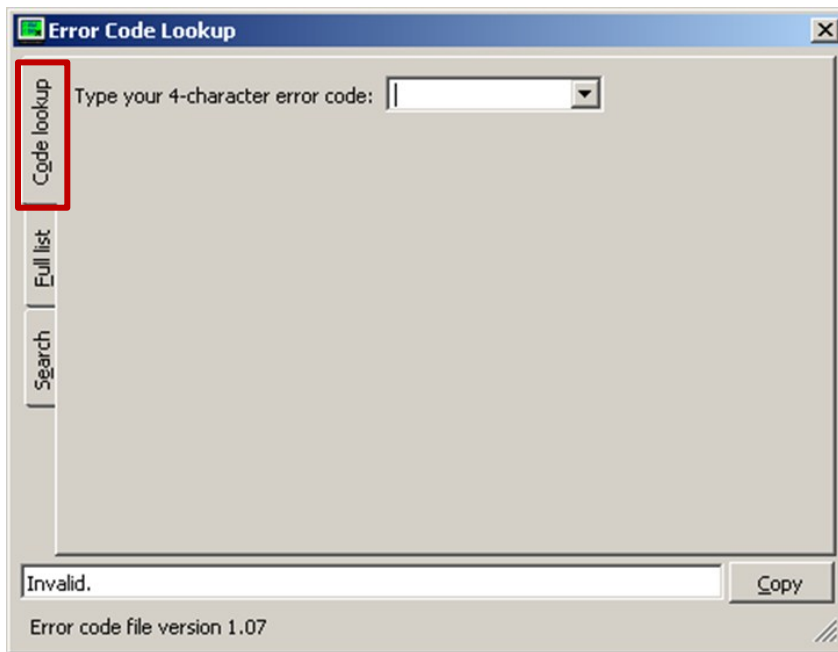

Figure 5: Code Lookup tab
- **Code Lookup Tab** – Enter the hex-version of the error code (Figure 5).